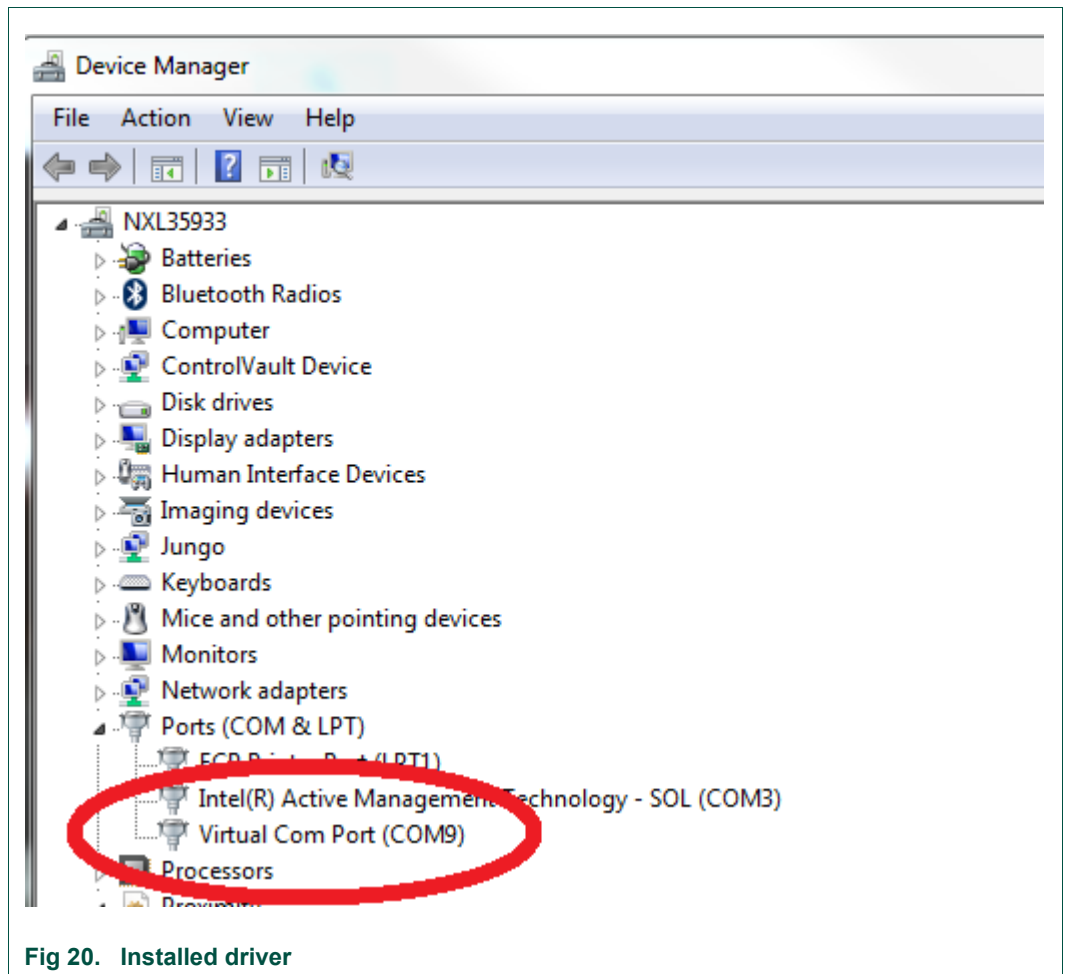

Fig 20. Installed driver
14. When the driver is installed, it may happen that Windows shows a message informing that the driver cannot start. In such a case, unplug then plug back the USB connection. This should restart the driver, so that it is seen as running (no error) in the device manager (see Fig 20).